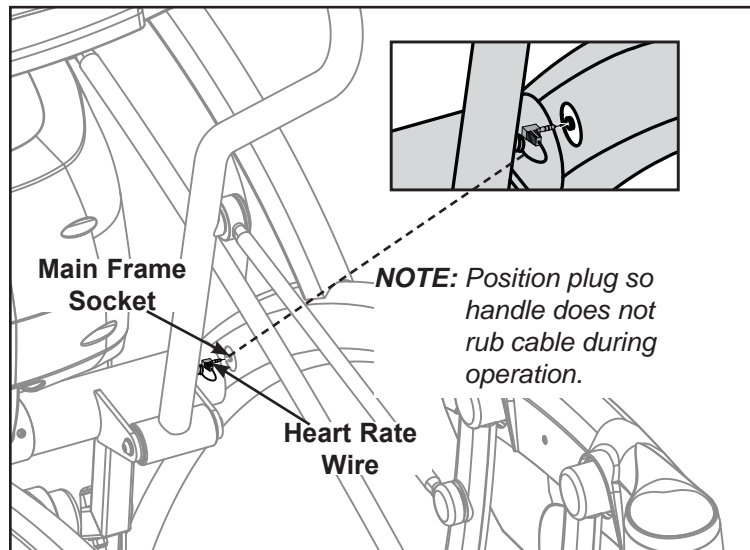

Figure 13 (750AT)
- A. Locate contact heart rate cable exiting from the right handle assembly. See Figure 13.
- B. Plug right heart rate cable into main frame socket. See Figure 13.